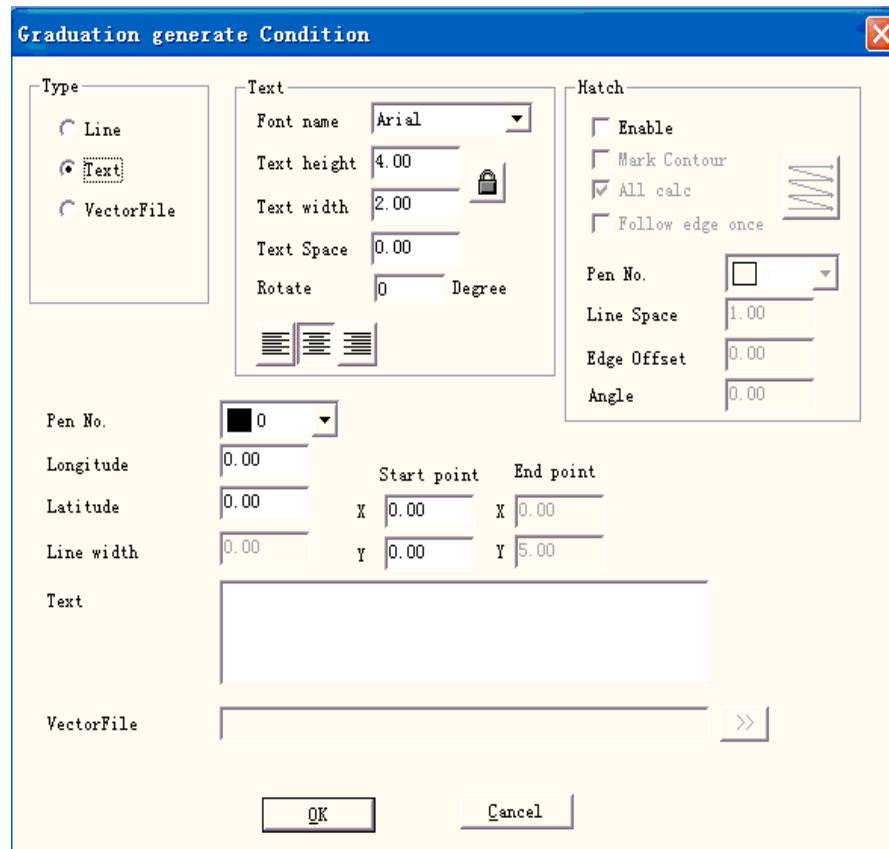

Figure 8-8
Step 2: Click menu item **Rotary marking2** and the dialog box shown in Figure 8-8 popup.
Click “Add” presenting to edit the Globe, as shown in Figure8-8: